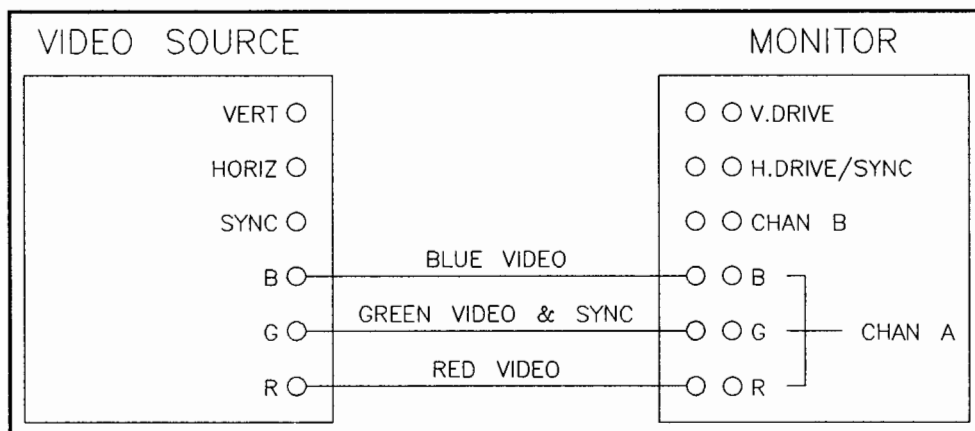

Figure 4-59. HP 13279B Cable Connections
- a. Connect one cable from the RED video output on the HP 98627A Interface to the CHANNEL A RED IN connector (J1) at the rear of the monitor (see Figure 4-59).
- b. Connect one cable from the GREEN video output on the HP 98627A Interface to the CHANNEL A GREEN IN connector (J3) at the rear of the monitor (see Figure 4-59).
- c. Connect one cable from the BLUE video output on the HP 98627A Interface to the CHANNEL A BLUE IN connector (J5) at the rear of the monitor (see Figure 4-59).